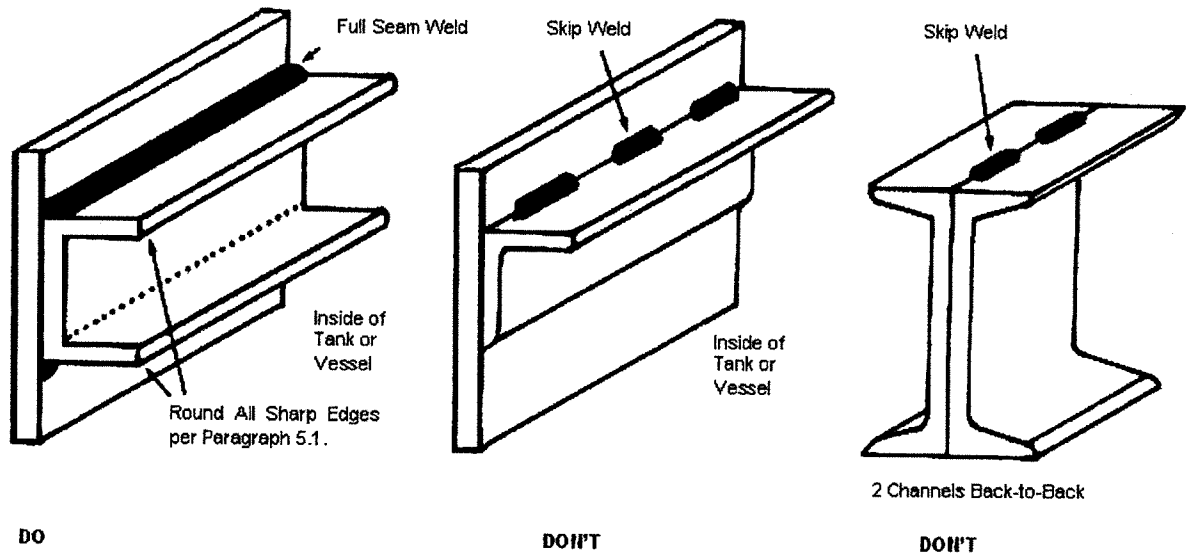

FIGURE A1
3.1.1 All surfaces of the tank or vessel interior shall be readily accessible for surface preparation and lining application (see Figures A1 through A10, Appendix A).
3.5.2 The use of internal flanged connections, stiffening rings, reinforcement pads, angles, channels, I-beams, and other complex shapes should be avoided. If they must be installed internally, these members shall be fully welded and welds and sharp edges ground to a radius of at least 3.2 mm (0.13 in.) or as agreed between the tank or vessel fabricator, tank or vessel owner, and lining applicator (see Figures A1 and A6, Appendix A).